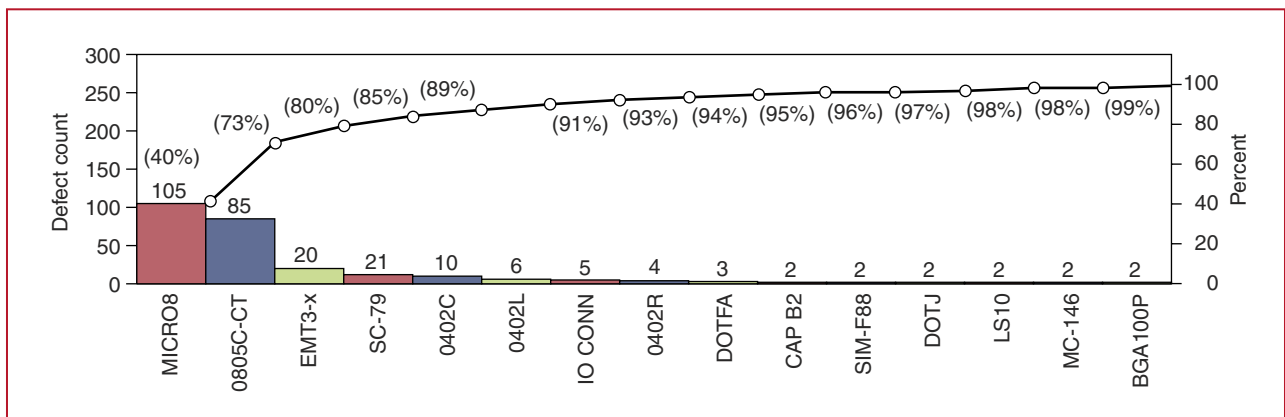

FIGURE 3. A Pareto chart plots defect types from largest to smallest numbers so managers can solve problems in order of how they affect quality.
- **Part-level analysis.** Sometimes, the root cause of a decrease in PCB-assembly yield relates only to a few parts. During a two-week period, we analyzed the AOI data from a run of PCBs. This attribute data indicated the proper vs. improper positioning of components on a PCB. The Pareto chart (**Figure 3**) shows that three parts—the MICRO8 ball-grid-array (BGA) package, the 0805C-CT tantalum capacitor, and the EMT3-x small outline transistor (SOT)—caused the most defects. When line managers adjusted the production equipment to properly place these three components, PCB-assembly defects declined by 80%.
- **Part-level analysis on one board.** During inspection, we acquired variable data for the positions of the same components used to plot the Pareto chart in Figure 3. An analysis of the data revealed details about the expected position of the components and the positions at which the AOI equipment found them. In this